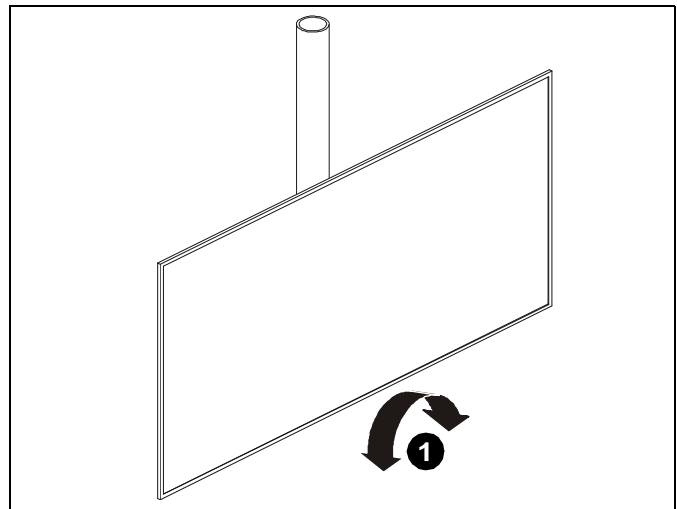

Figure 10
1. Grasp the display on both ends and roll slightly left or right. (See Figure 10)